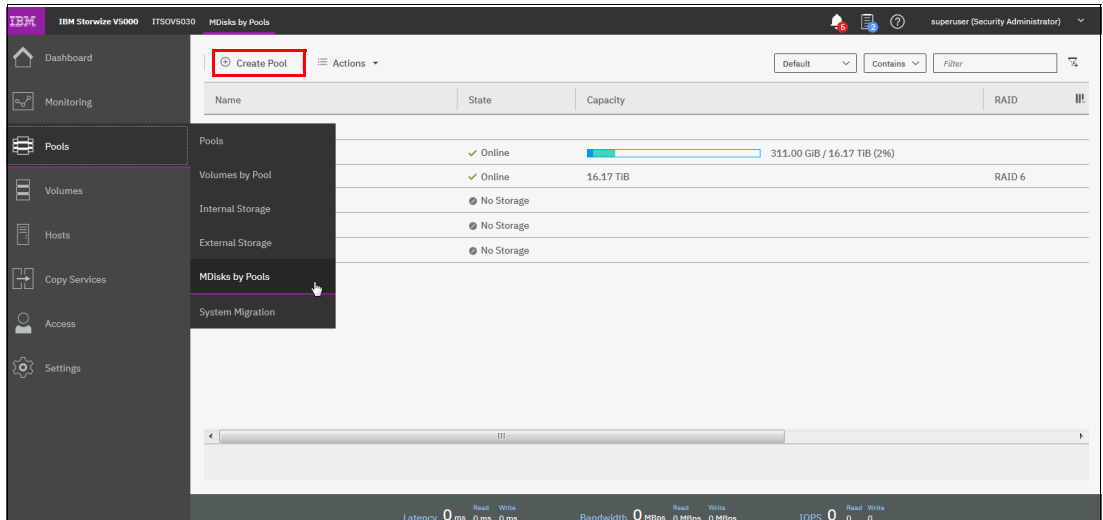

Figure 4-19 **Create Pool** button on MDisks by Pools window
- Browse to **Pools** → **MDisks by Pools** and click **Create Pool**, as shown in Figure 4-19.